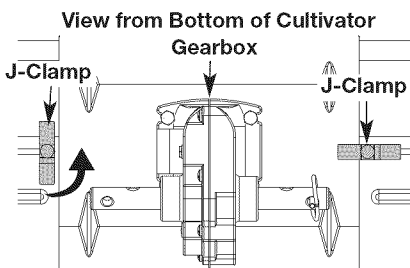

Fig. 3
4. With the de-thatching shield held tightly against the cultivating shield, turn the loose J-clamps so that the J part of the clamp is under the mini tiller shield. (Fig. 3)